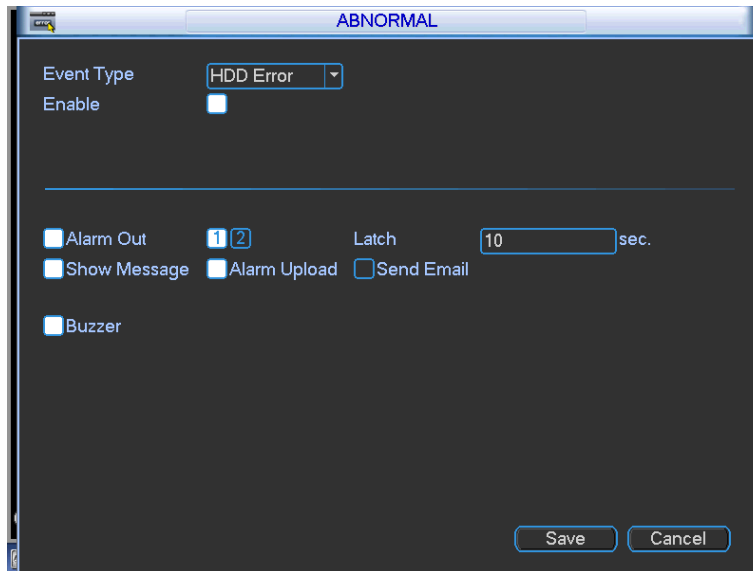

Figure 4-68
- Alarm set: Click alarm set button, the interface is shown as below. See Figure 4-68. (This interface is just like the abnormality setup). Please refer to chapter 4.8.6 for detailed information.